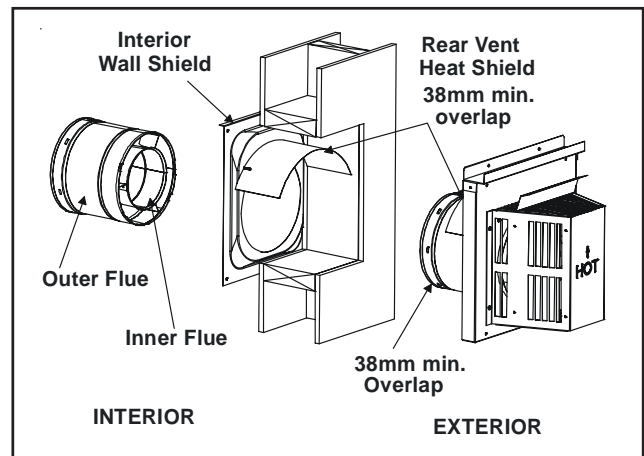

FIGURE 1.26 Flueing through the Wall
- The small leg in the shield rests on top of the flue to properly space it from the pipe section (see Figure 1.26).